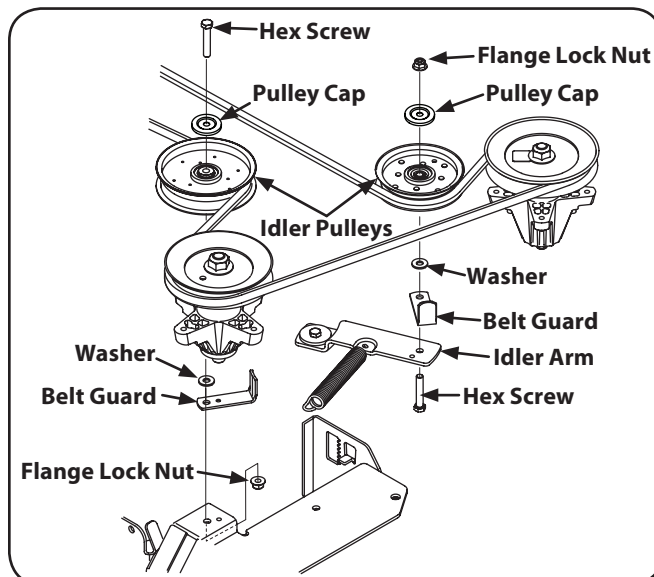

Figure 7-9
3. Remove the two idler pulleys by removing the hex screws and flange lock nuts that secure them to the deck and the idler arm. See Figure 7-9. Do not lose any of the hardware when removing the hex screw and flange lock nut.
6. Place the belt around the idler pulleys removed in step 3 with the "V" side facing in. Once in place, reinstall all the hardware and tighten the flange lock nut to secure the assembly. See Figure 7-9.